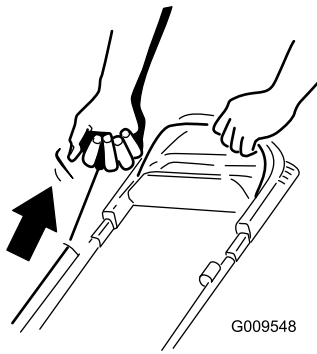

Figure 20
2. Pull the recoil-start handle (Figure 20).
Note: When you pull the recoil-start handle, pull it lightly until you feel resistance, then pull it sharply (Figure 20). Allow the rope to return to the handle slowly.